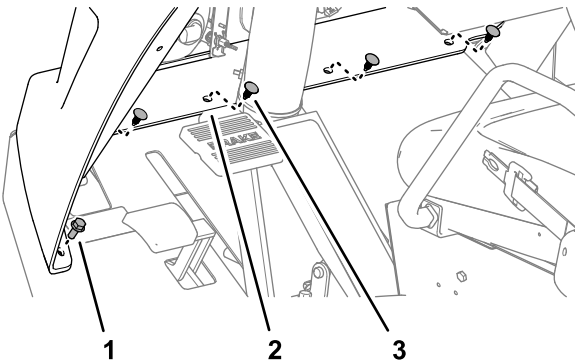

Figure 3
3. Remove the 4 push-in fasteners that secure the bottom flange of the hood to the machine (Figure 3).
4. Remove the 2 flange-head bolts (5/16 x 3/4 inch) that secure the bottom flange to the machine (Figure 3).